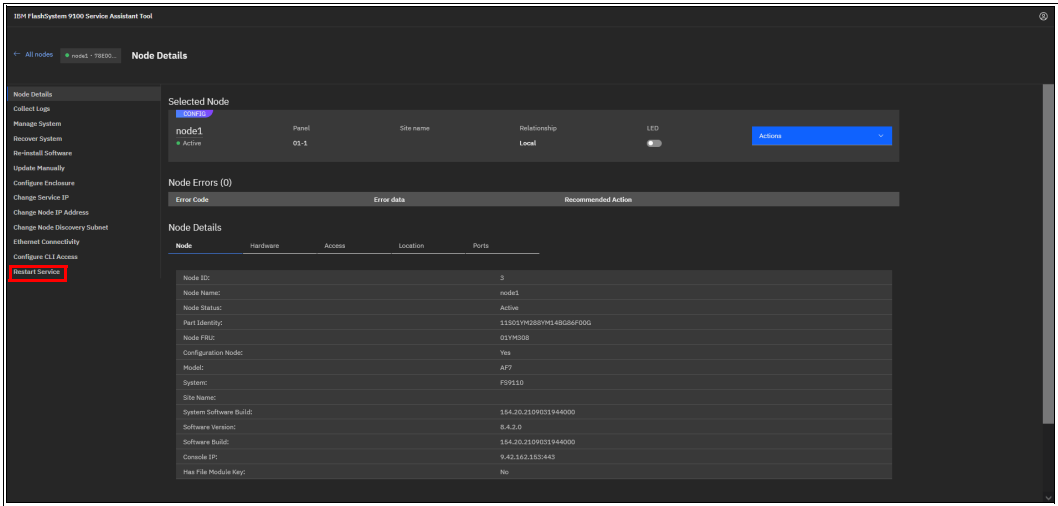

Figure 4-138 Node details
3. Select the **config** node. Node details open, as shown in Figure 4-138. Select **Restart Service**.